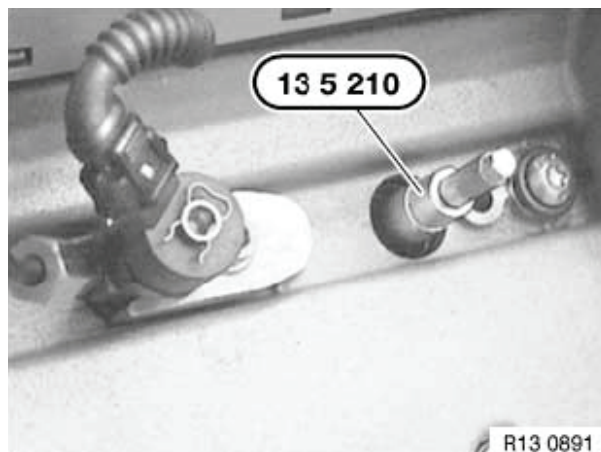

Figure 6-12
7. Insert brush and sleeve into injector cavity until it touches the bottom (**Figure 6-12**).